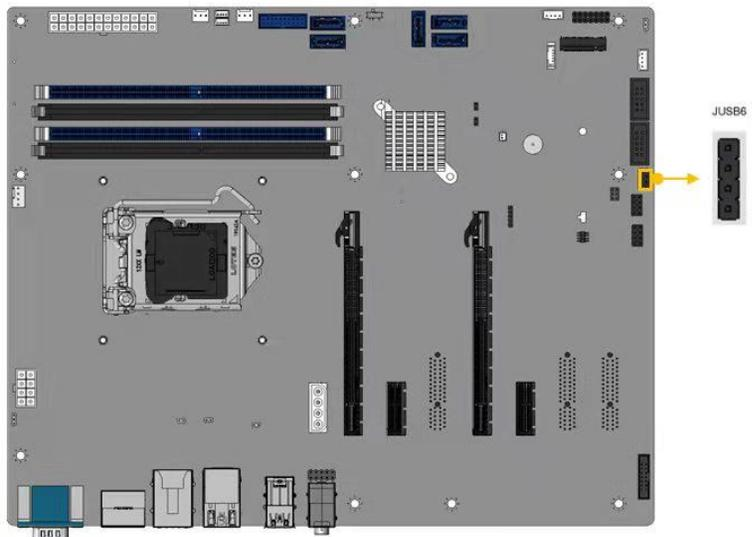

Figure 3-30: Internal USB 2.0 Connector Locations
- CN Location:** See **Figure 3-30**